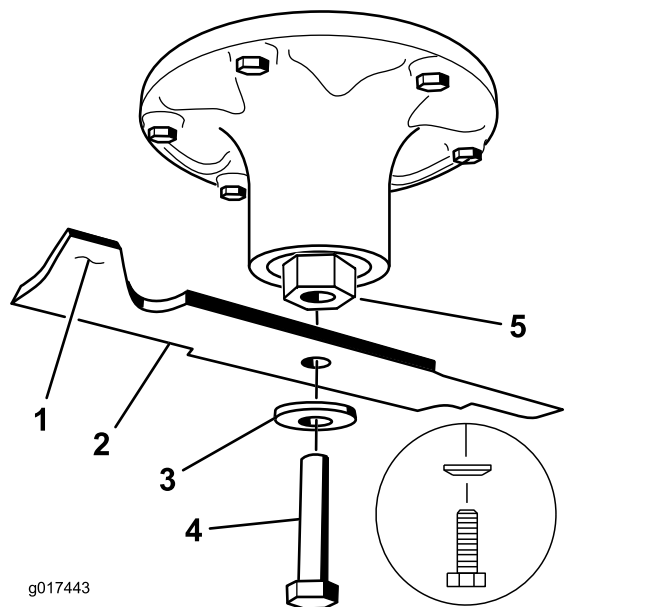

Figure 109
2. Remove the left and center blade bolt, curved washer, and blade from the spindle shaft (Figure 109).
1. Install the left and center blades, curved washers, and blade bolts to the spindle shafts (Figure 109 and Figure 110).
**Note:** Ensure the curved-washer cone is installed toward the bolt head (Figure 109).
2. Install the right blade, curved washer, and blade bolt (left-hand threaded bolt) to the spindle shaft (Figure 109 and Figure 110).